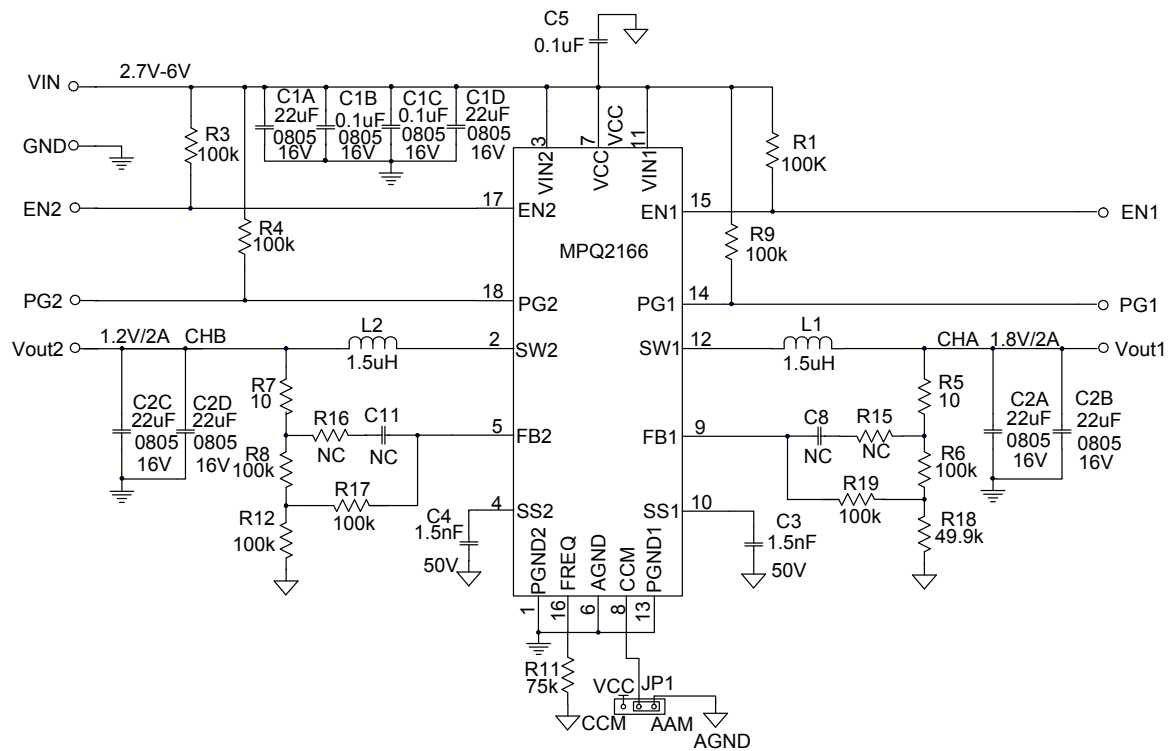

Figure 7: 2A/2A Application Circuit
- 5) The recommended PCB layout is based on Figure7